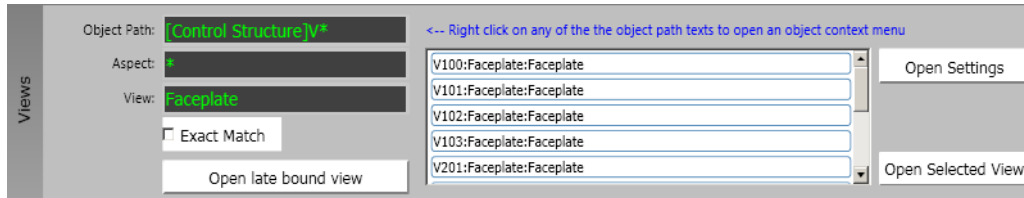

Figure 173. Views
3. Drag and drop **Text** primitives (**Toolboxes > Graphic Primitives**) into the edit panel. Label the primitives as **Object Path**, **Aspect**, and **View** as shown in Figure 173.